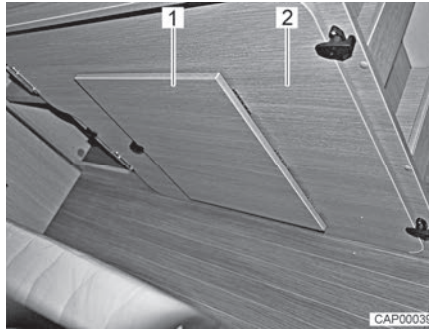

Fig. 40 Removable board on the right-hand bedding box
- Remove additional removable board (Fig. 40,2) from the right-hand bedding box in the rear.
- Fold footrest (Fig. 40,1) out on the removable board.